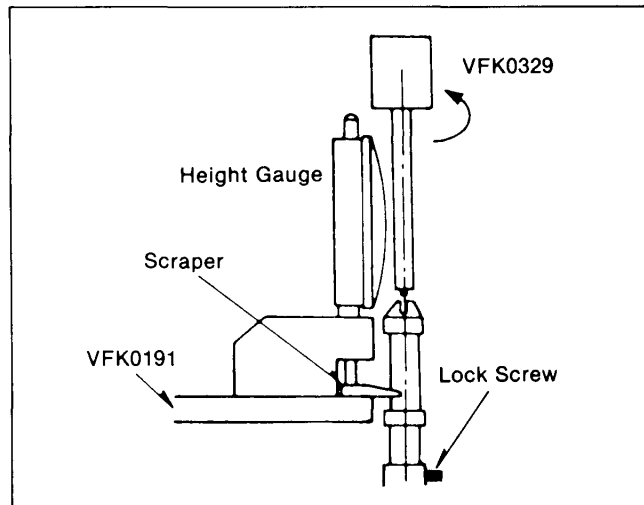

Figure M4
3. Lower 2 tape guide posts (P2 and P3) by turning the Post Adjustment screwdriver so that the condition of post becomes as shown in Figure M4. That is the lower edge of Tape guide should be lower than surface of Adjustment Plate.